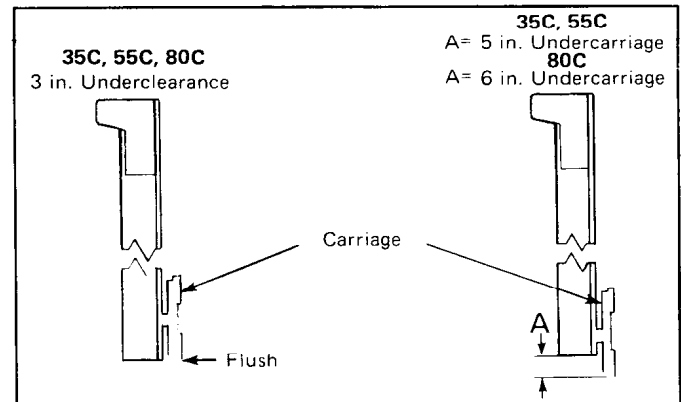

Figure 6. Carriage Adjustment.
The carriage hoist chains should be adjusted so that when the unloaded mast is fully lowered, the carriage is positioned as shown in Figure 6.
2. Adjust one chain to achieve the correct carriage position when fully lowered, as shown in Figure 6.